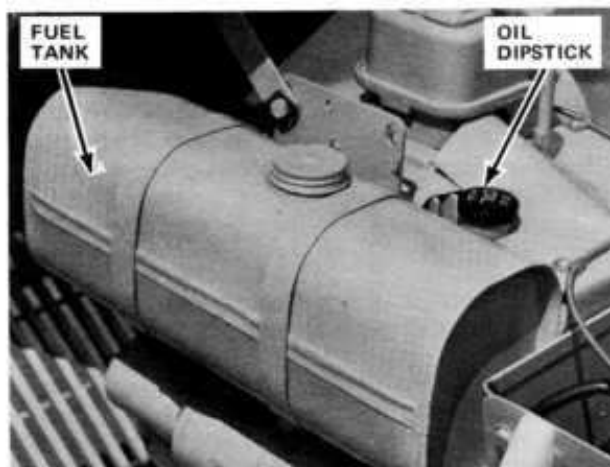

Figure 12
**FUEL TANK** (Figure 12) — Fill with clean fresh gasoline of regular grade. **DO NOT MIX OIL WITH GASOLINE.** Check to see that vent hole in fuel tank cap is not plugged.